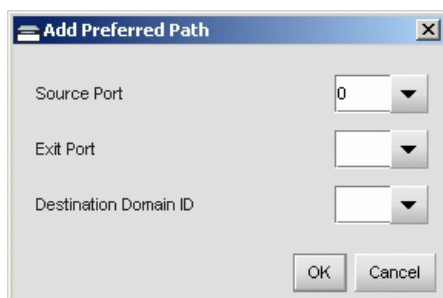

Figure 2-88 Add Preferred Path Dialog Box
- Click *Add*. The *Add Preferred Path* dialog box displays (Figure 2-88).